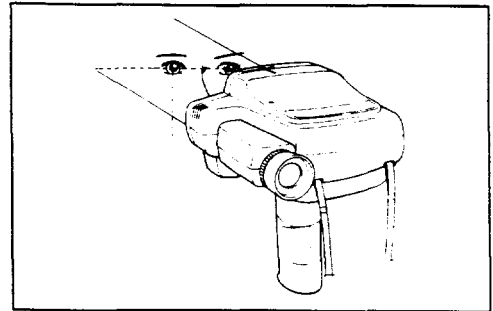

Figure 6-6
③ Rough alignment of the patient's eye (see Figure 6-6).